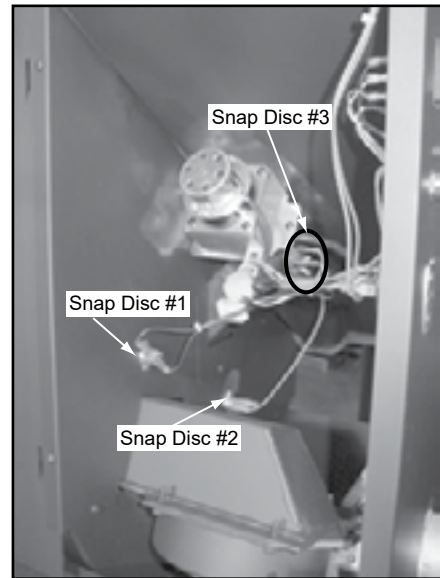

Figure 25.2
2. Remove both upper and lower right side curtains (**Figure 25.2**).
3. Snap disc #2 is located on the convection plenum in the center of the appliance above the convection blower (**Figure 25.2**).